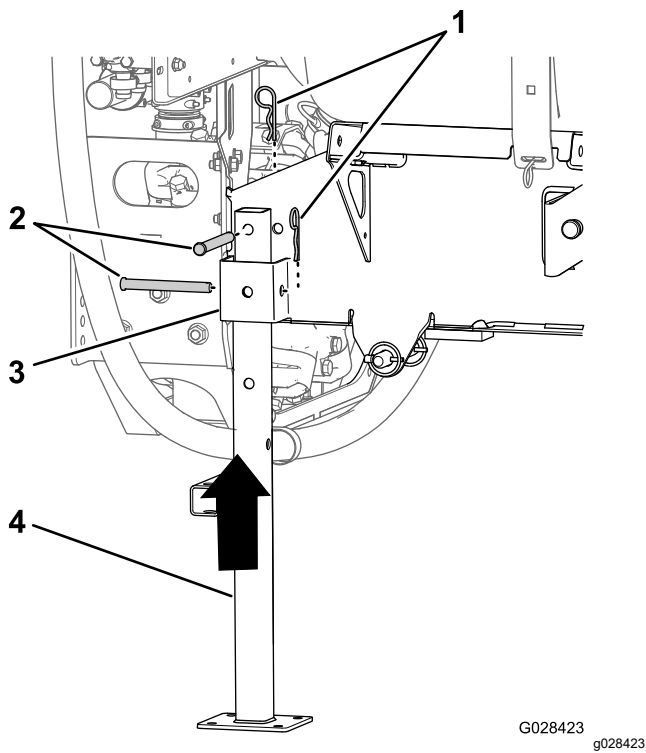

Figure 100
5. Align the rear jack stand with the rear jack-stand receiver (Figure 100).
- Align the hole in the top of the jack stand with the hole in the frame of the tank skid (Figure 100)
- Secure the jack stand to the receiver and the frame with 2 clevis pins (1/2 x 4-1/2 inches) and 2 hairpins (5/32 x 2-5/8 inches) as shown in Figure 100.